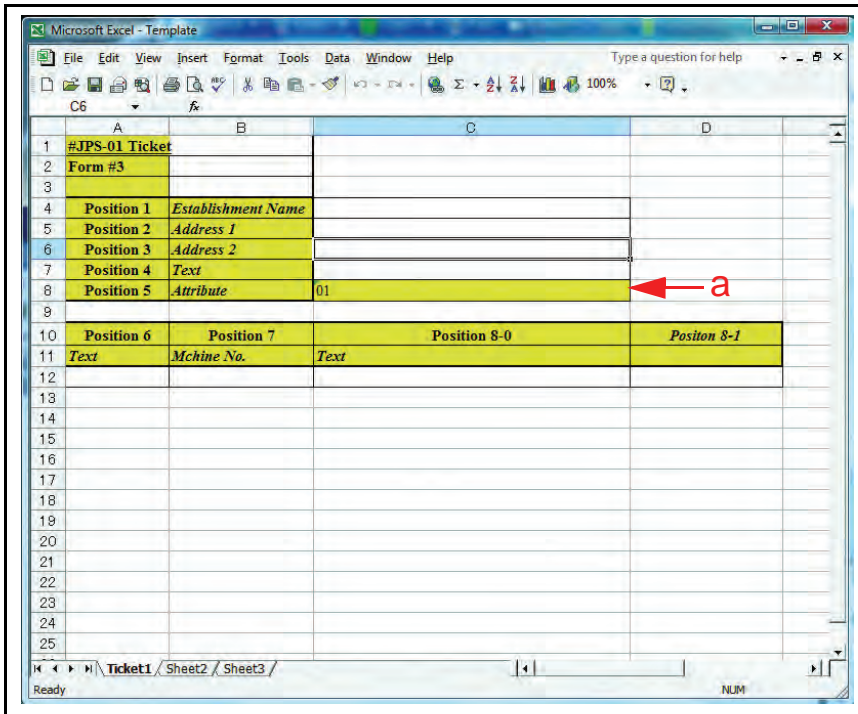
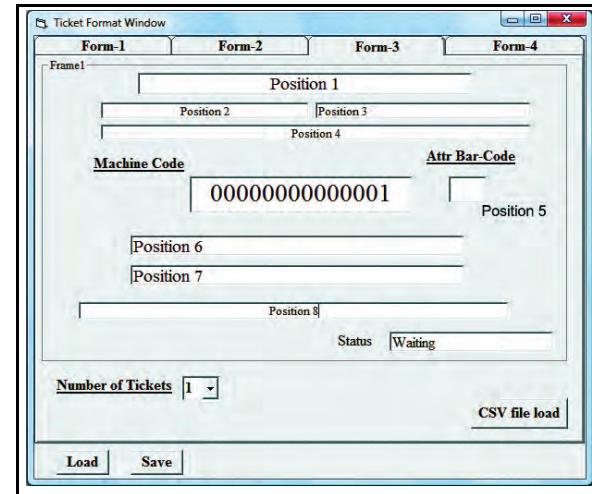
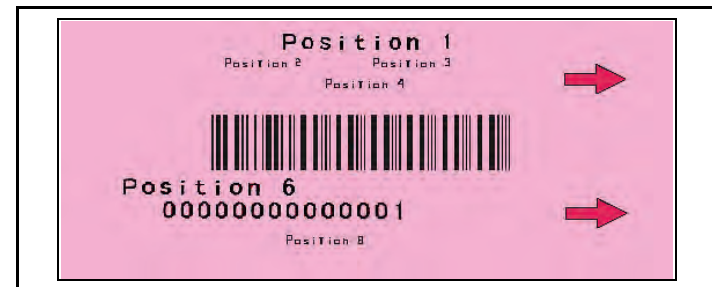

Figure 6 Typical Excel CSV Data Template Screen
Figure 7 Ticket Format Form-3b Screen
Figure 8 Position Information Location Typical Ticket
The basic Excel format shown in Figure 6 is used to input pre-existing data information from Excel files into the CSV format required by the simulator program.
**NOTE:** Position 5 (Attribute) must always contain a value of 01 in this case. This value sets the bar code type for a "Machine Set Ticket" (See Figure 6 a).
The "Form-3" Tab relate directly to the data locations entered in the Excel CSV Data Template Screen shown in Figure 6. Figure 7 and Figure 8 show the exact location of each field of data entered in the ICB Set Ticket Template used to create Machine Set Tickets from an Excel File Data Base.
**NOTE:** See Figure 8 on the previous page to identify the proper location of the “Position” 1 through 4 and 6 through 8 entered information on a typical ticket.